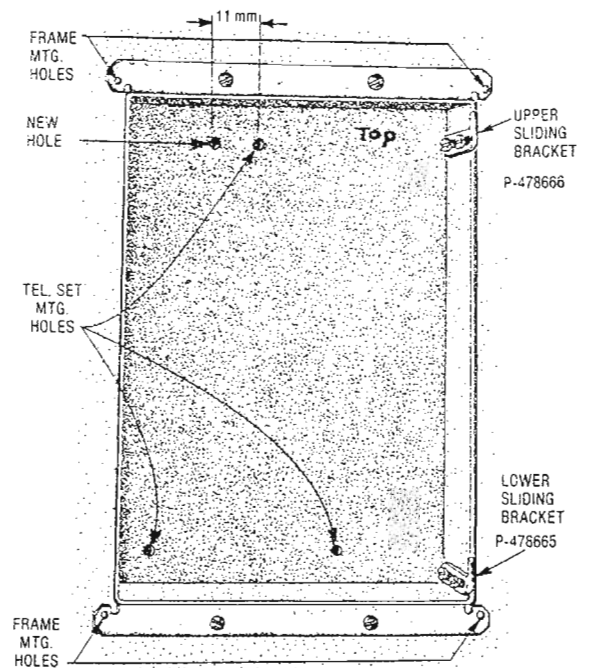

Fig. 4 — D-95334 Outlet Box
- 3.12 The D-95334 type outlet box without frame is shown in Fig. 4.
- 3.13 Two sliding brackets and four Filister head machine screws are furnished with 322- and 522-type telephone sets. The brackets are to be attached to the outlet box at locations indicated in Fig. 4.
- 3.16 An additional mounting hole is drilled, as shown in Fig. 4, when mounted 522-type sets in outlet boxes manufactured before July, 1966.
- 3.17 Boxes manufactured after January 1970 do have knockouts for 1/2 in and 3/4 in conduit. In addition, the word TOP is stamped in the upper right corner (Fig. 4).
- 5.03 When maintenance work is required in the back of a 322-type or 522-type telephone set, remove the free fasteners which attach the set to the back of the outlet box, and support the set on the sliding brackets shown in Fig. 4. Where 9A fuse blocks equipped with 55A fuses were used on existing installations replace with connecting block.